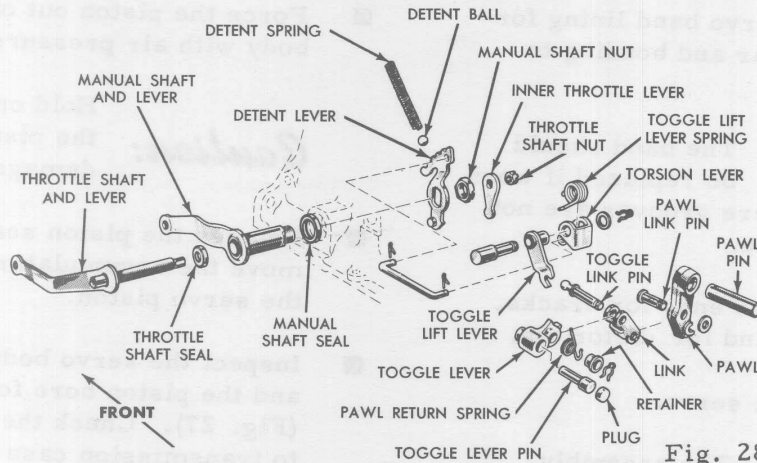

Fig. 28
- ☒ Remove the inner throttle lever shaft nut. (Fig. 28). Remove the inner throttle lever.
- ⊗ Check all parking linkage parts for wear or damage (Fig. 28).